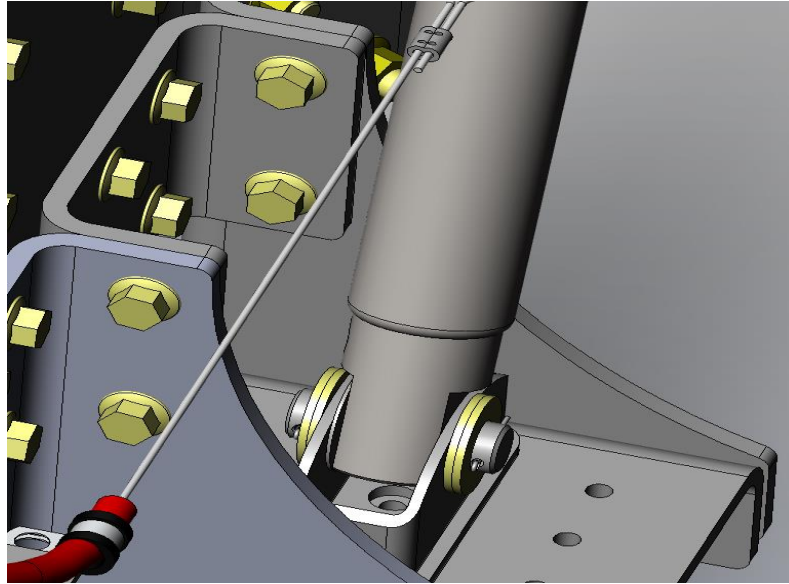

Figure 5.1
- 6) Remove lower cab tilt cylinder pins by first removing the cotter-pins and the flat washers. *See Figure 5.1*